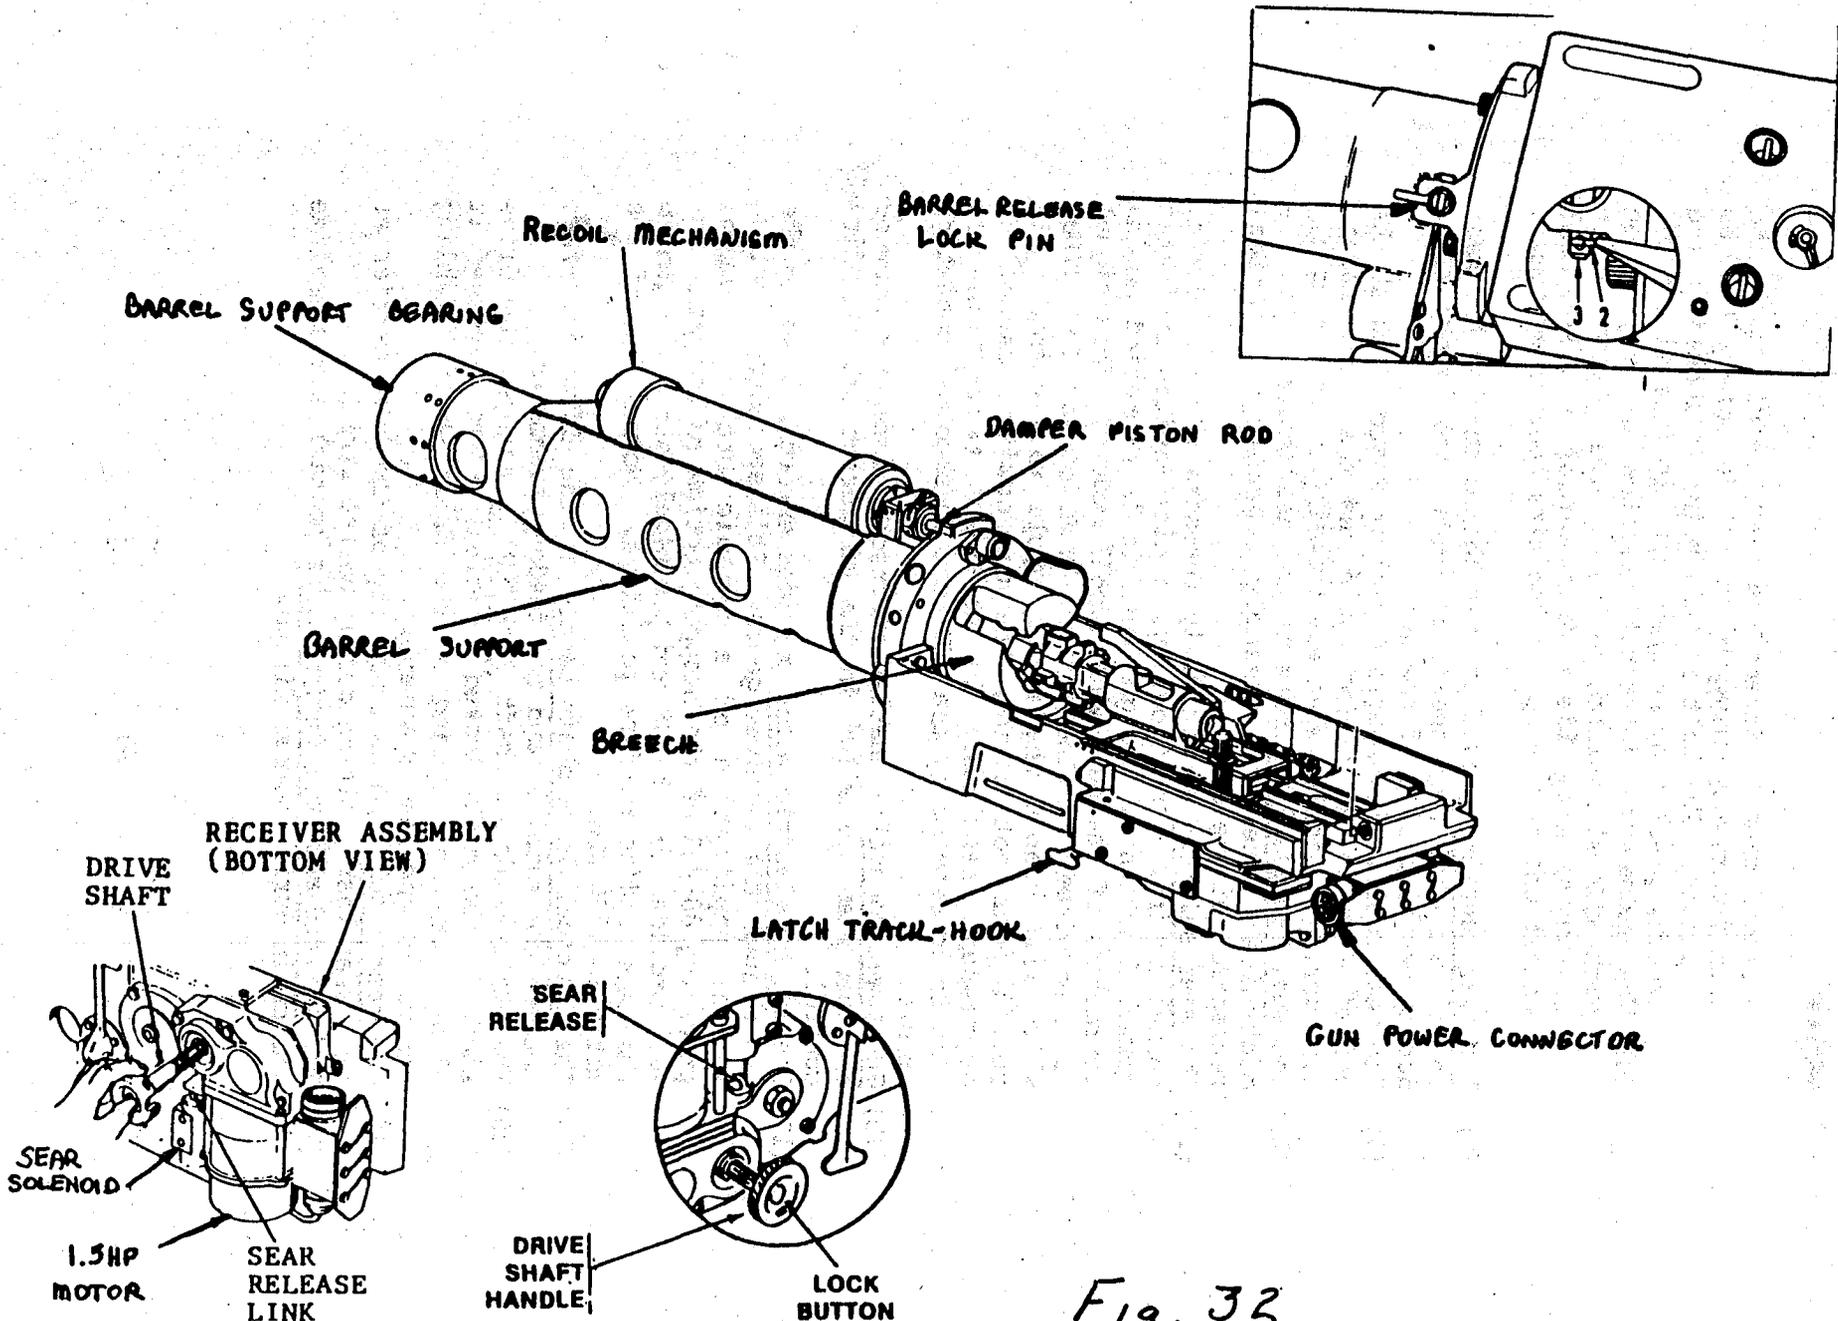

Fig. 32
b. Receiver. (See Fig. 32) The receiver assembly consists of the bolt and track assembly, mechanical interlock system, recoil mechanism, and 1.5 hp motor with gear housing.
- (1) Barrel support bearing in conjunction with the barrel bearing provides for barrel stability during its recoil and post recoil movement.
- (2) Barrel support assists in providing stability to the barrel, cooling of the barrel with 11 cooling ports, and includes the recoil mechanism housing.
- (3) Barrel release lock pin positively engages the barrel when installed in the receiver.
- (4) Recoil mechanism absorbs 85% of recoil of the breech and barrel assemblies during firing. It consists of a helical belvedere spring set and a damper piston, and is affixed to the breech assembly.
- (5) Damper piston rod allows for a determination of the correct damper fluid level (DC 510) within the recoil damper.
- (6) Breech assembly is the mechanical interface between the barrel, bolt, receiver and recoil mechanism. It is located within the barrel support assembly and receiver body, and secures the barrel locking lugs and bolt locking lugs during recoil/firing. 2 slots on the upper left and right of breech allows for unrestricted feeding and extraction of the 25mm cartridge from the breech. During recoil (12mm or 1/2 inch) it activates the mechanical interlock assembly. The breech assembly must be replaced when 25,000 rounds has been fired and verified by the 2408-4 Weapons Record Data form maintained on the gun.
- (7) The mechanical interlock system is designed to eliminate any hazard associated with non-firing cartridges, resulting in positively locking the bolt in the breech. Its operation is two fold; first as a mechanical indication of normal cartridge firing and second as cartridge failure.